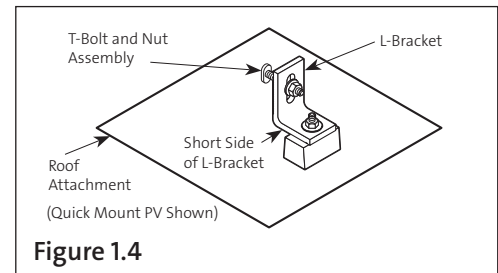

Figure 1.4
- 1.4. Attach short side of pre-assembled L-Bracket to Roof Attachment ⑥ per attachment instruction manual. Quick Mount PV shown in **Figure 1.4**.